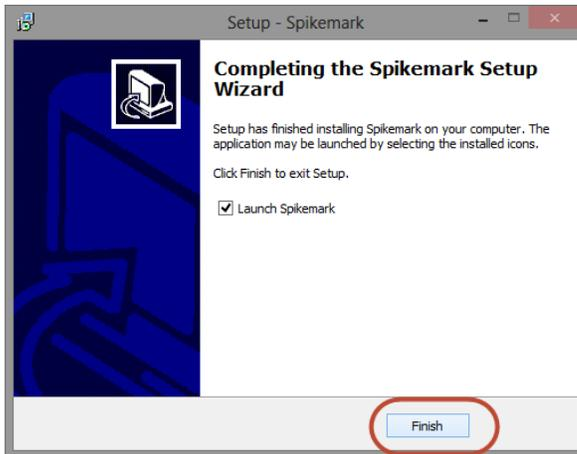

Figure 9
11. In the **Installation Complete** window check the **Launch Spikemark** option if you want to start using Spikemark immediately. Uncheck **Launch Spikemark** if you want to run it later. Click **Finish** (Figure 9).